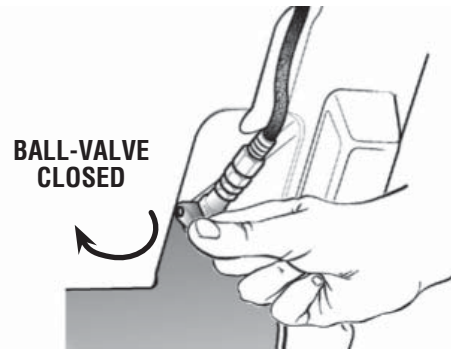

Fig. 8
See Figures 8 - 11.
- Make sure the ball-valve at the base of the inflation hose is in the **OFF** position (vertical to the hose) (Fig. 8).
- Turn ball-valve to the "closed" position (Fig. 8) when inflation is complete.